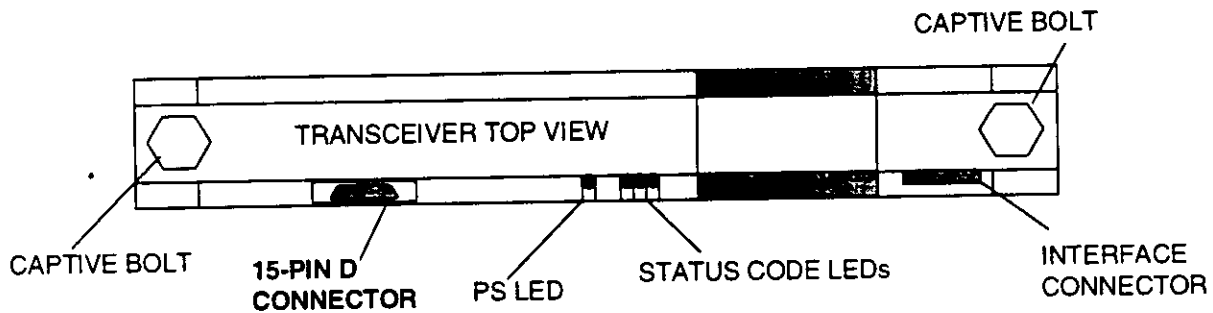

Figure 4-4. Transceiver Connector Location
- e. Connect the 15 pin "D" connector of the RS-232 cable to the test connector on the CMI transceiver to be downloaded. (See Figure 4-4.)